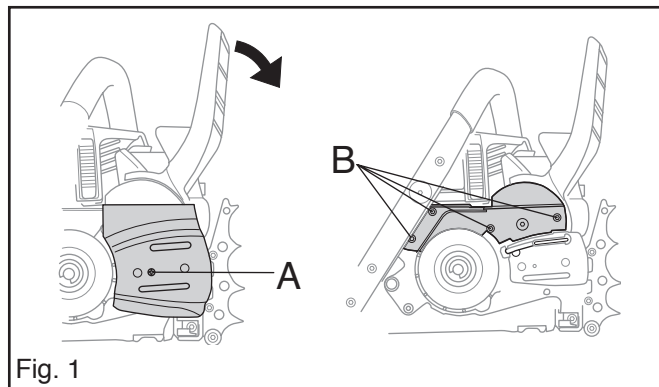

Fig. 1
2. Push the hand guard forward so that the chain brake is on. See fig. 1.
3. Remove the chain guide-plate (A). See fig. 1.
4. Remove the four screws (B) and the cover over the chain brake mechanism. See fig. 1.
6. Fit the cover over the chain brake mechanism. Four bolts (B). Tighten the bolts to 4 Nm. See fig. 1.
7. Fit the chain guide-plate with bolt (A). See fig. 1.